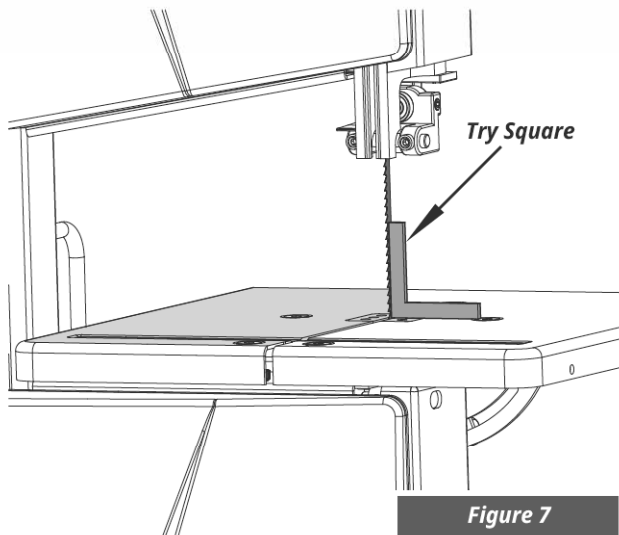

Figure 7
1. Raise upper blade guide fully. Check band saw blade tension. (See Figure 7)